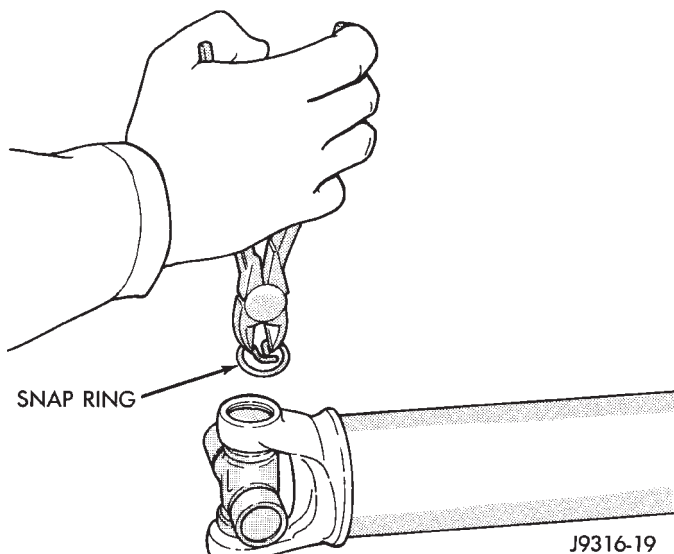

Fig. 18 Remove Snap Ring
- (1) Remove the propeller shaft.
- (2) Using a soft drift, tap the outside of the bearing cap assembly to loosen snap ring.
- (3) Remove snap rings from both sides of yoke (Fig. 18).